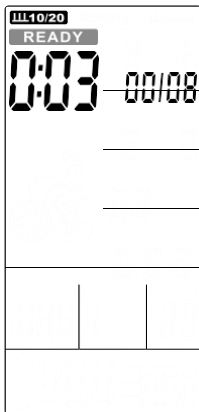

Figure 20
- ⑤ Press any PROGRAM key then perform the program accordingly.
- ① Press INIERVAL key to select INTERVAL20/10, press ENTER then **INTERVAL20/10** will light up, along with a long sound for 1s.
- ② Cycle time counts down from 3 to 0 then console start, meanwhile buzzer beeps once per second and **READY** flashes once per second, counting displays '00/08'(Figure 20).